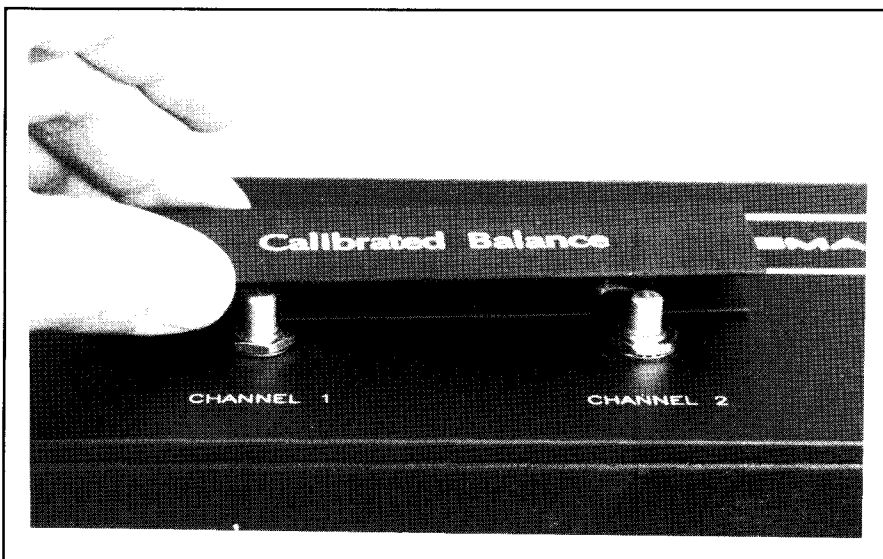

FIGURE 2
- 5) Tighten the control shaft nuts with an open end wrench. (Figure 2)